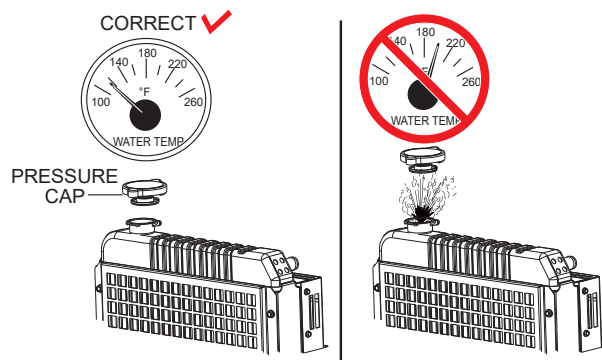

Figure 72. Radiator Pressure Cap Removal
1. Remove the **radiator pressure cap** (Figure 72) only if the coolant temperature is below 120°F (50°C).